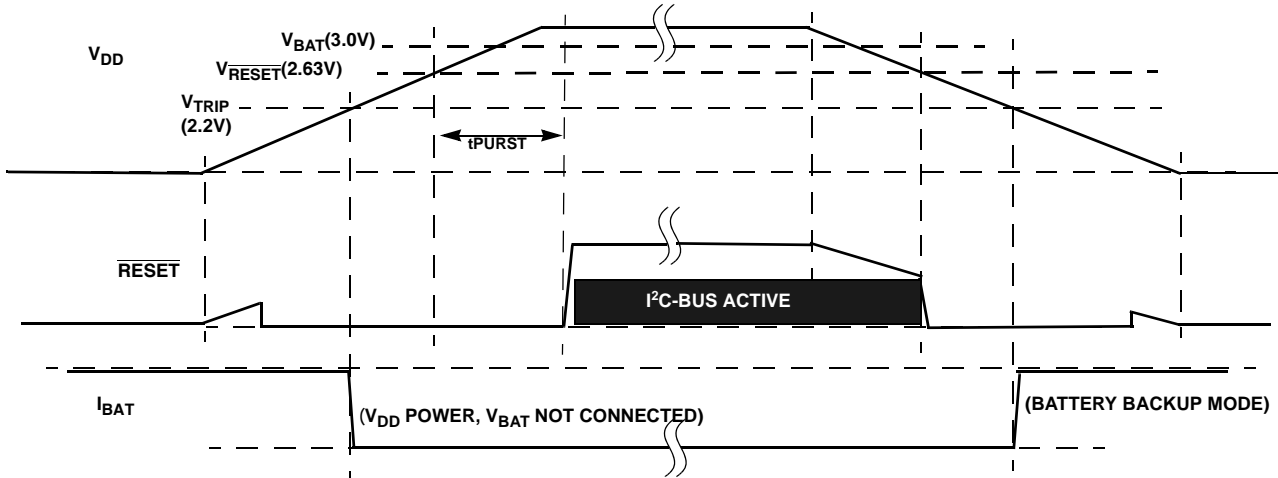

FIGURE 29. EXAMPLE RESET OPERATION IN MODE A OR C
- Mode A - In this mode, selection bits indicate a low V_{DD} switchover combined with I²C operation in battery backup mode. In actuality the V_{DD} will go below $V_{\overline{RESET}}$ before switching to battery backup, which will disable I²C ANYTIME the device goes into battery backup mode. Regardless of the battery voltage, the I²C will work down to the $V_{\overline{RESET}}$ voltage (see Figure 29).
- Mode C - In this mode, the selection bits indicate a low V_{DD} switchover combined with no communications in battery backup. Operation is actually identical to Mode A with I²C communications down to $V_{DD} = V_{\overline{RESET}}$, then no communications (see Figure 29).